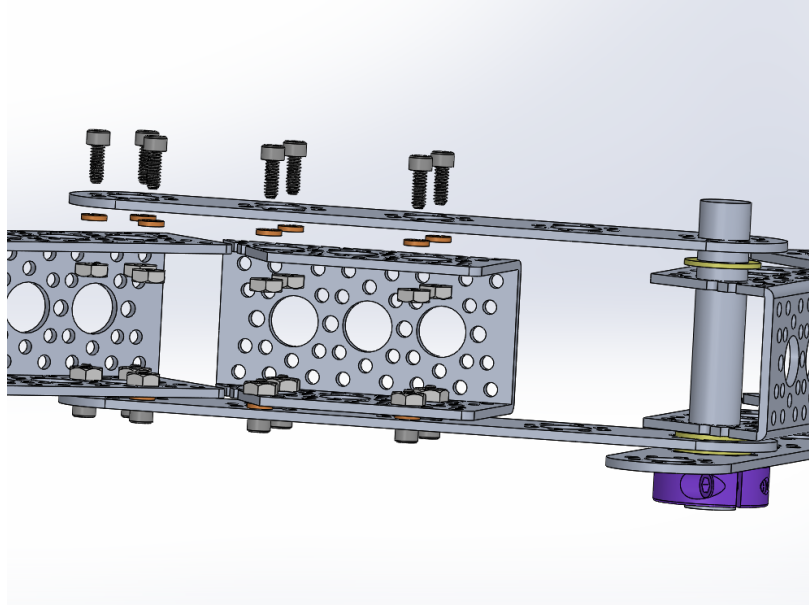

Figure 7: Start the other side of Rocker-Bogie joint
5. **Opposite edge of Rocker-Bogie Joint:** Attach another Pattern F bracket **S7** to the opposite side of the channels using washers **W1** and **W3**, screws **B3**, and hex nuts **B8** as shown in Figure 7.